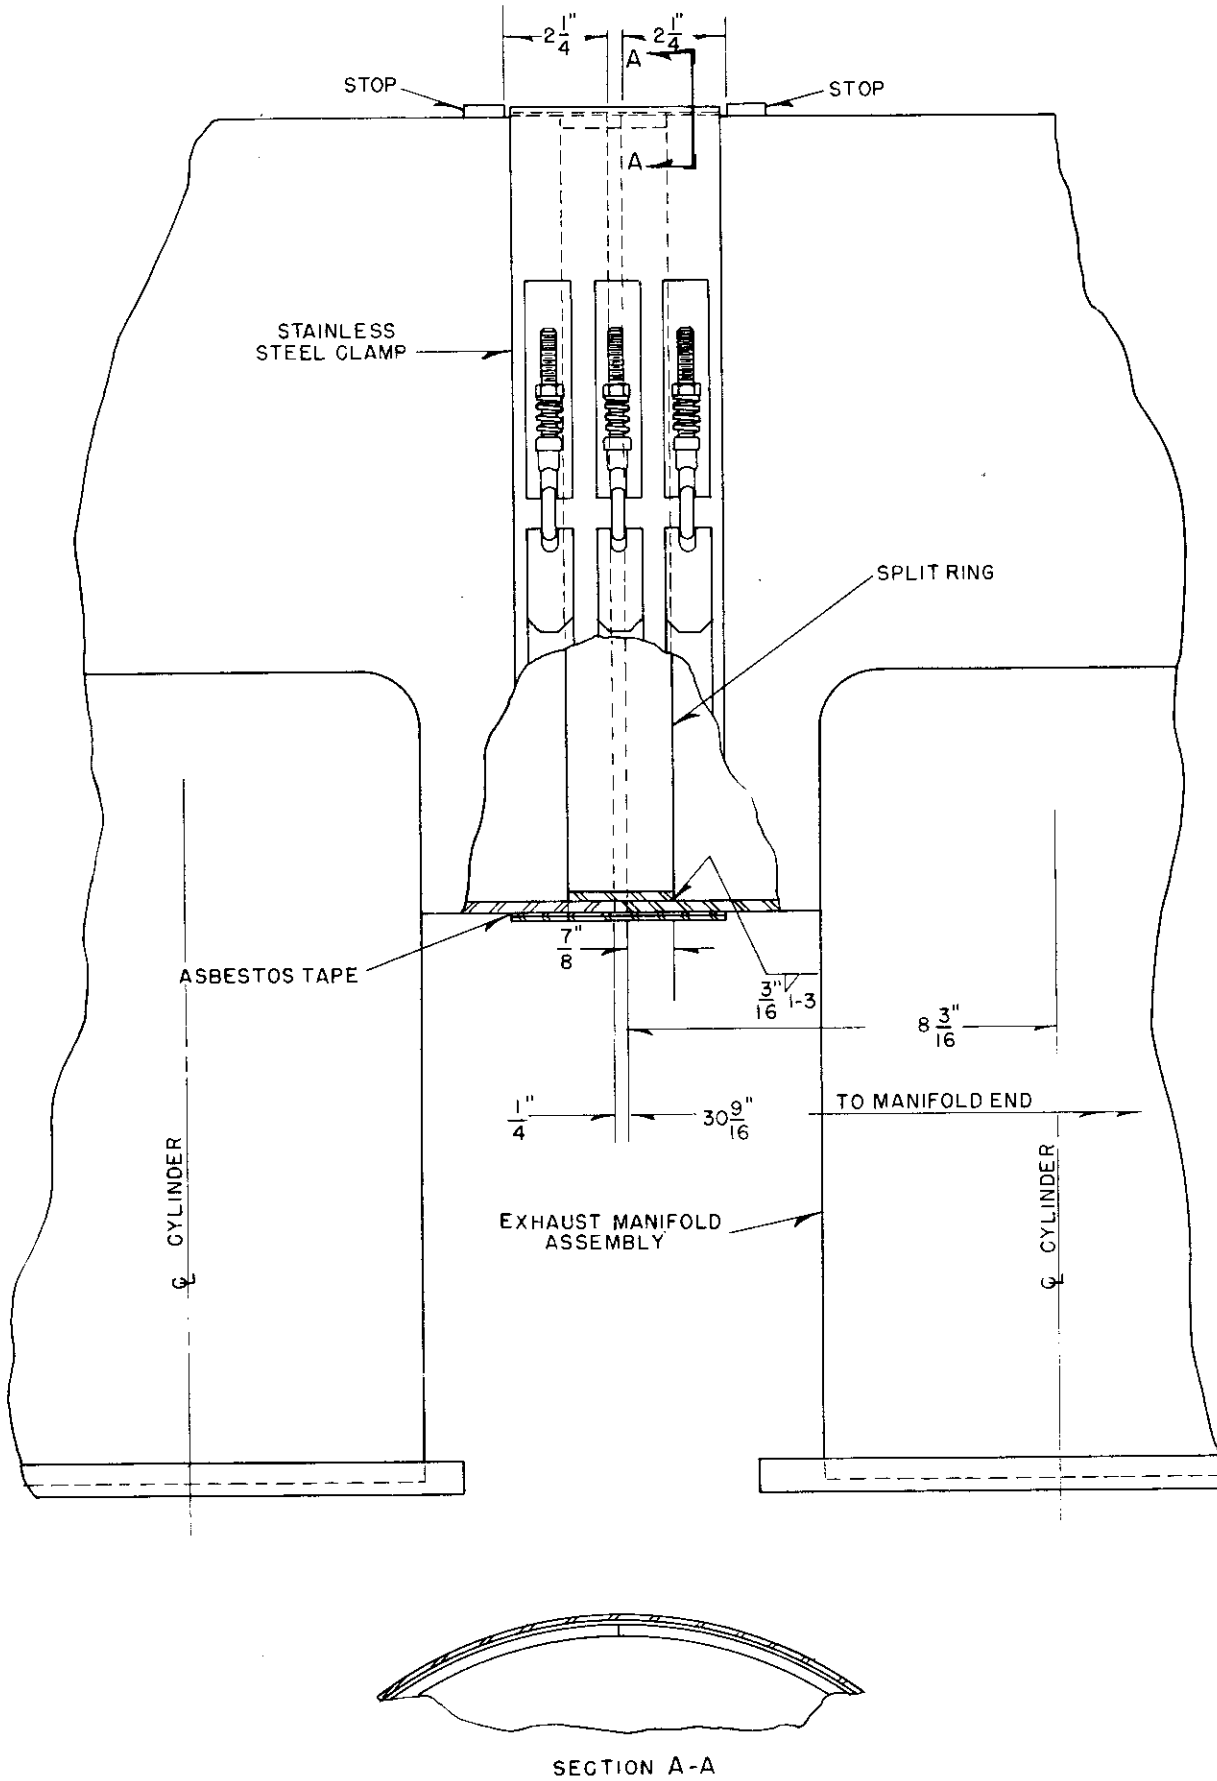

Fig. 1 - Rework Drawing For Splitting Of Manifold
**REFERENCES:** No reference drawings necessary. Refer to Figs. 1 thru 7.
5. Cut the manifold in half as per Fig. 1. The drain hole in the bottom of the manifold may be used to establish the center line for making the cut. Fabricate a suitable guide-clamp to clamp around the manifold to guide the cutting torch. Mark the mating halves as these halves will not be interchangeable with other manifold halves.
13. Weld a 3/16" x 1" x 1" stop at the top of each half, 2-1/4" from cut as per Fig. 1. These stops are to prevent side slippage of the 4" stainless steel clamp.
14. Trim split ring #8159860 at assembly and weld to either half of the cut manifold as per Fig. 1. Weld the gap in the split ring solid.